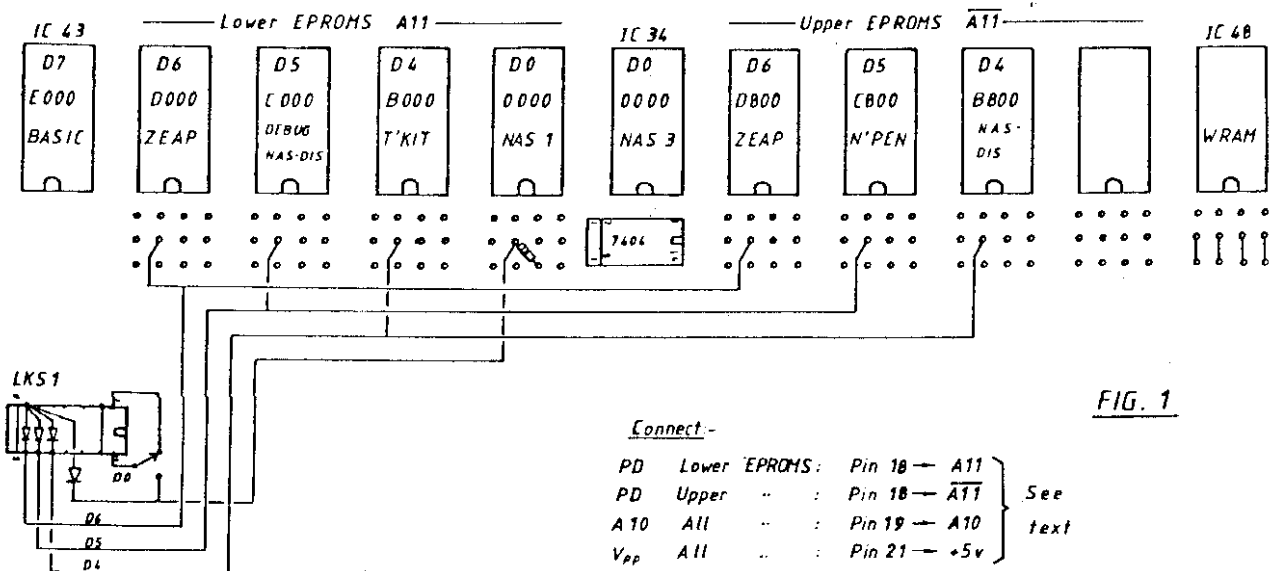

FIG. 1
STEP 5 (Component side of board - see fig 1)
Sometimes it may be required to switch different EPROMS into a given memory location and fig. 1 shows a method of doing this for, in my case, alternative monitors. The appropriate block pulse is switched to the appropriate pin 20 but it is necessary to disable the non used EPROM by allowing its Pin 20 to go high via a 1K resistor to +5v. The 1K for the original monitor is already on board (R53) but must be provided for any non-used EPROM. The gating diode for the switched monitor is also taken to LKS1-7.